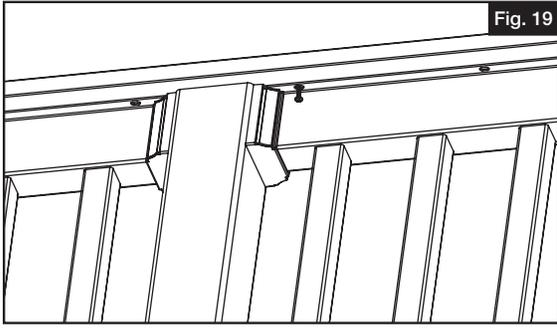

Fig. 19
- b. Drive #10 x 3/4" screws up from under rail centered through slotted holes and into deck board (Fig. 19).